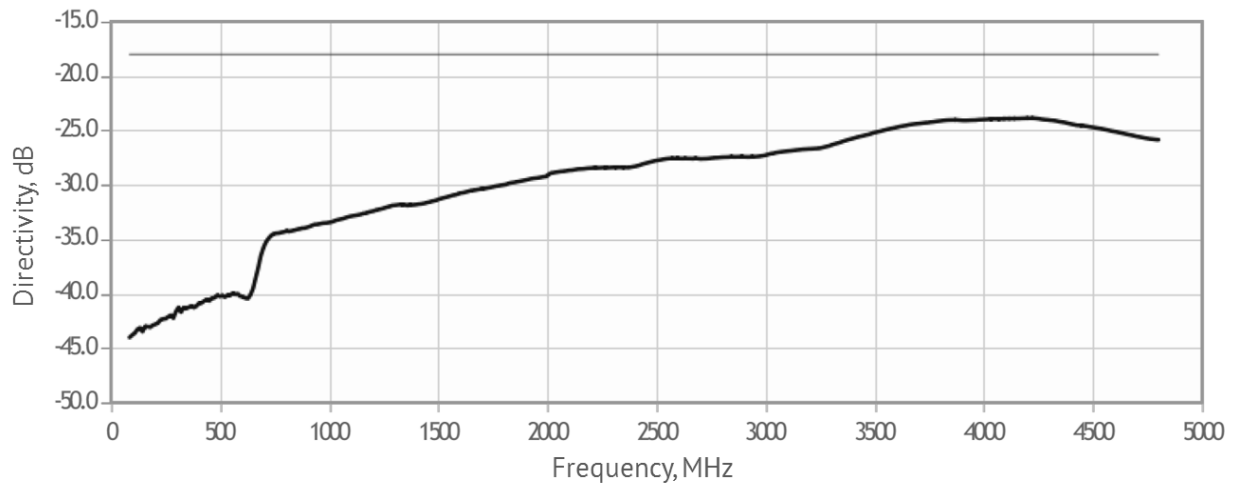

Figure 6. Uncorrected directivity example
6.3.2.7 When the user and reference calibrations are complete, check that the measured uncorrected and residual (effective) parameters are within specification limits. See Figures 6 to 8 for examples of measurement reports from the performance test program (bold lines indicate measurement results, thick lines indicate specification limits).